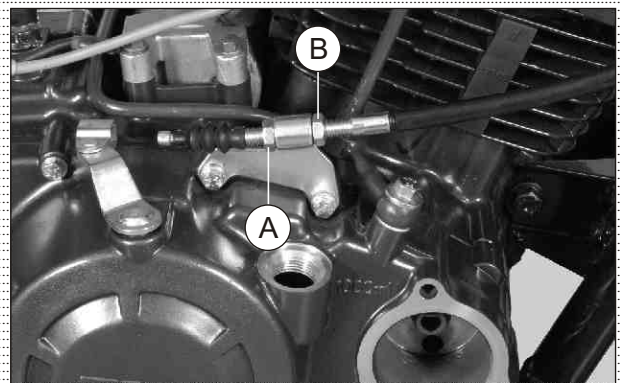

Fig. 3.2
- Loosen lock nut (A) and adjusting nut (B) from the cable assembly clutch mounting. (Fig. 3.2)